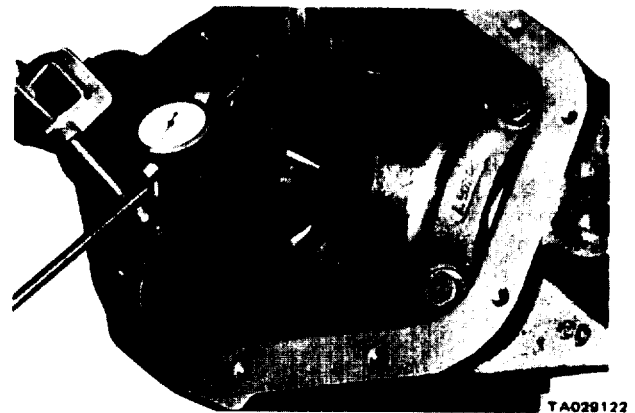

Figure 20-18. Checking Backlash Between Drive Gear and Pinion.
h. Attach a dial indicator to the carrier and with the indicator contact point contacting the ring gear tooth (figure 20-18), measure the backlash between the ring gear and the drive pinion.